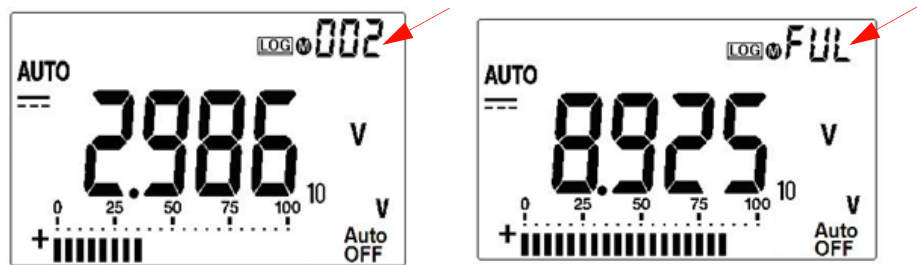

Figure 2-6 Manual logging display
- 2 Press  (Log) again for the next value that you want to save into memory, see Figure 2-6.